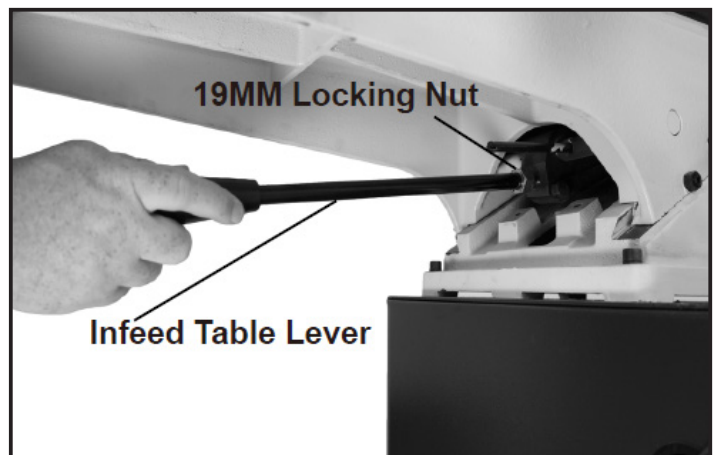

FIG.5.7
- Once the Infeed Table Lever is fully threaded into the Lifting Assembly tighten the 19MM locking nut to secure into position. FIG. 5.7.